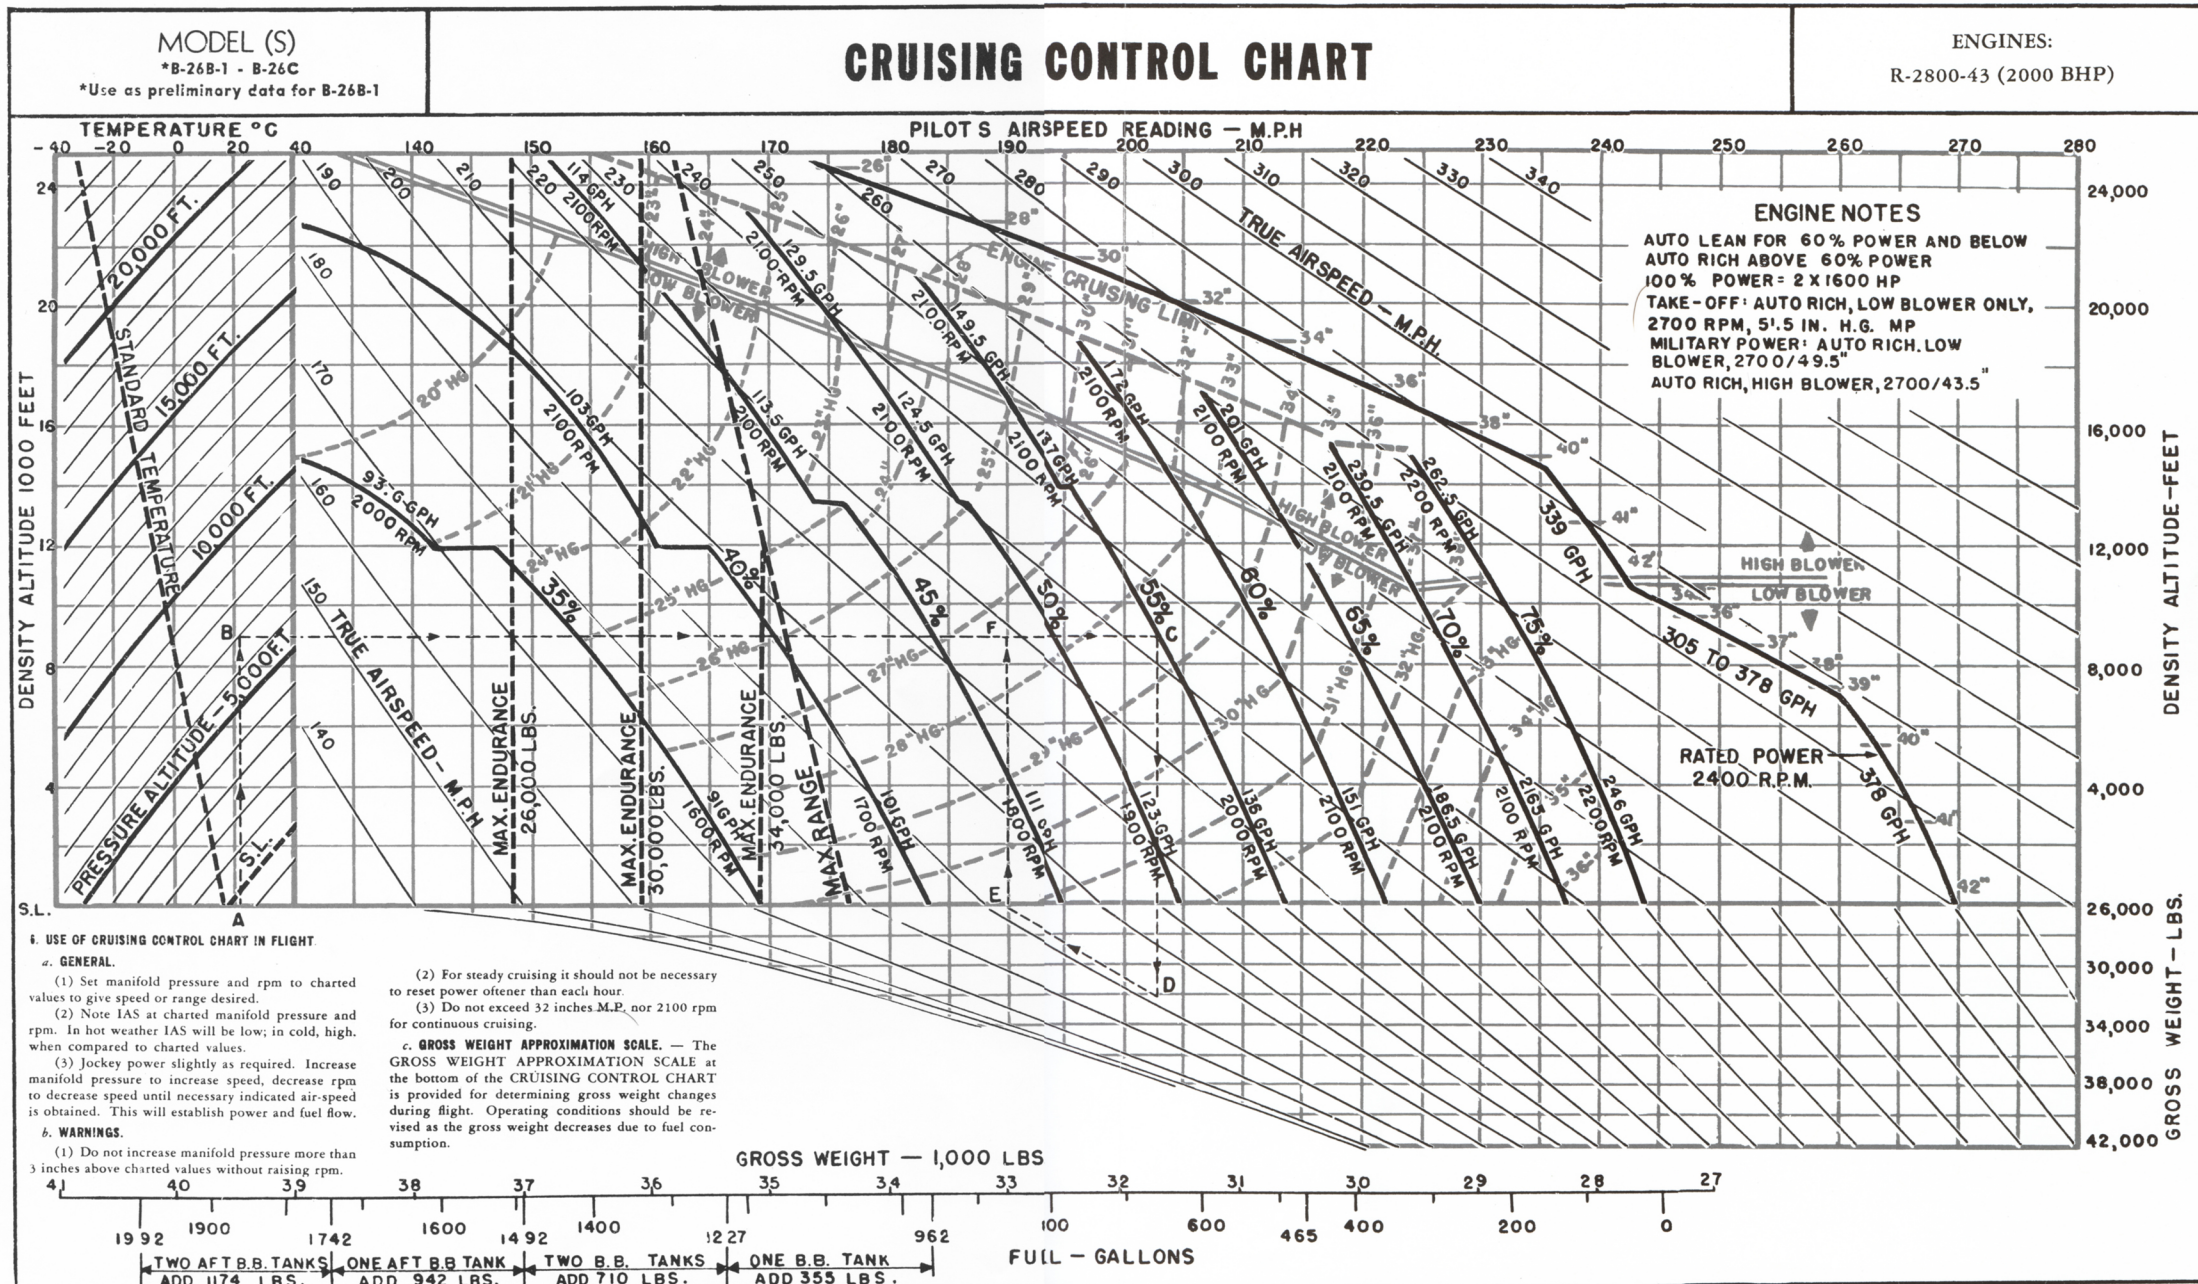

Figure 89 — Cruising Control Chart
### 3. CRUISING CONTROL CHART. (See figure 89.)
(2) *SOLUTION.*—Illustrated on chart. (See figure 89.)